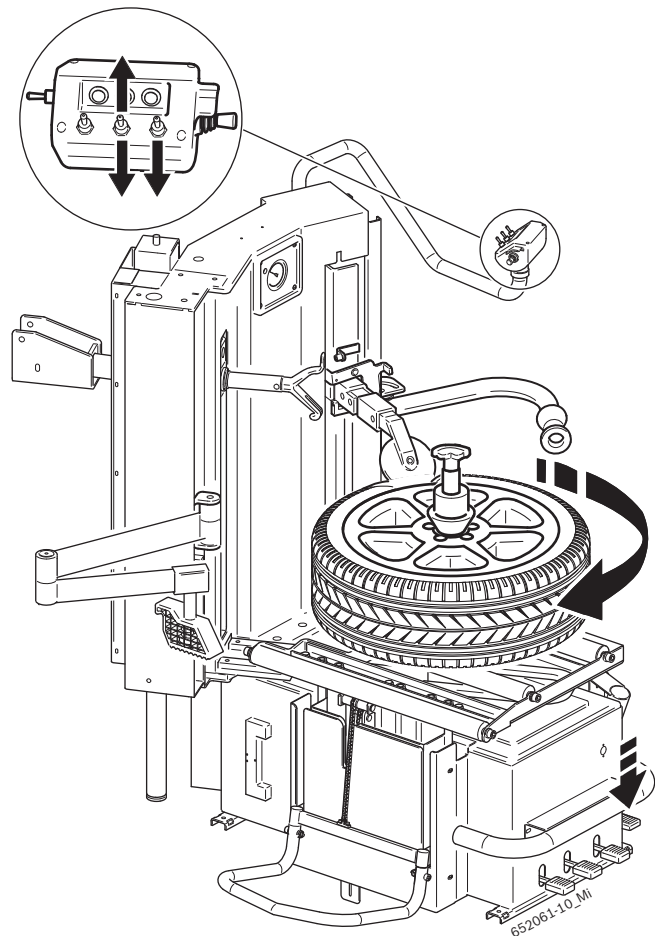
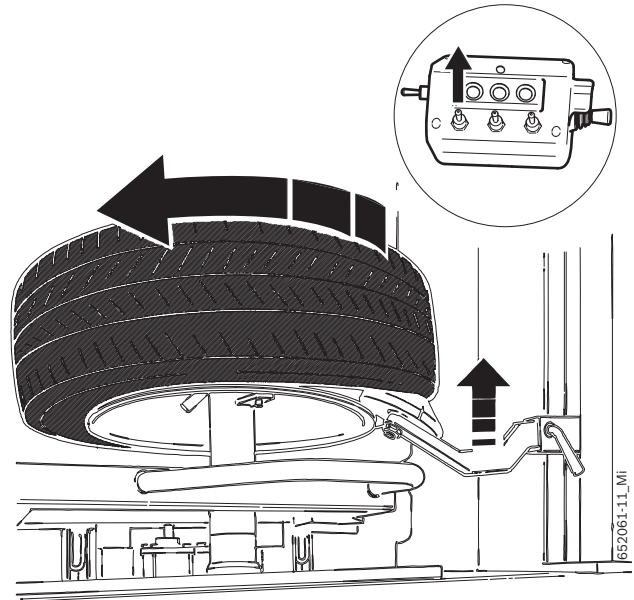

Fig. 5: Positioning of the upper bead breaking roller on the rim edge.
Fig. 6: Demounting with lower bead breaking arm.
2. Tilt downwards the upper bead breaking roller and move it downwards with the right control lever switch on the hydraulic control unit (Fig. 5).
3. Move upwards the lower bead breaking roller with the left control lever switch on the hydraulic control unit (Fig. 6).
1. Operate the locking flange pedal to rotate the tightening flange (Fig. 5), press the bead of the tire with both bead breaking rollers towards the rim shoulder (Fig. 6).